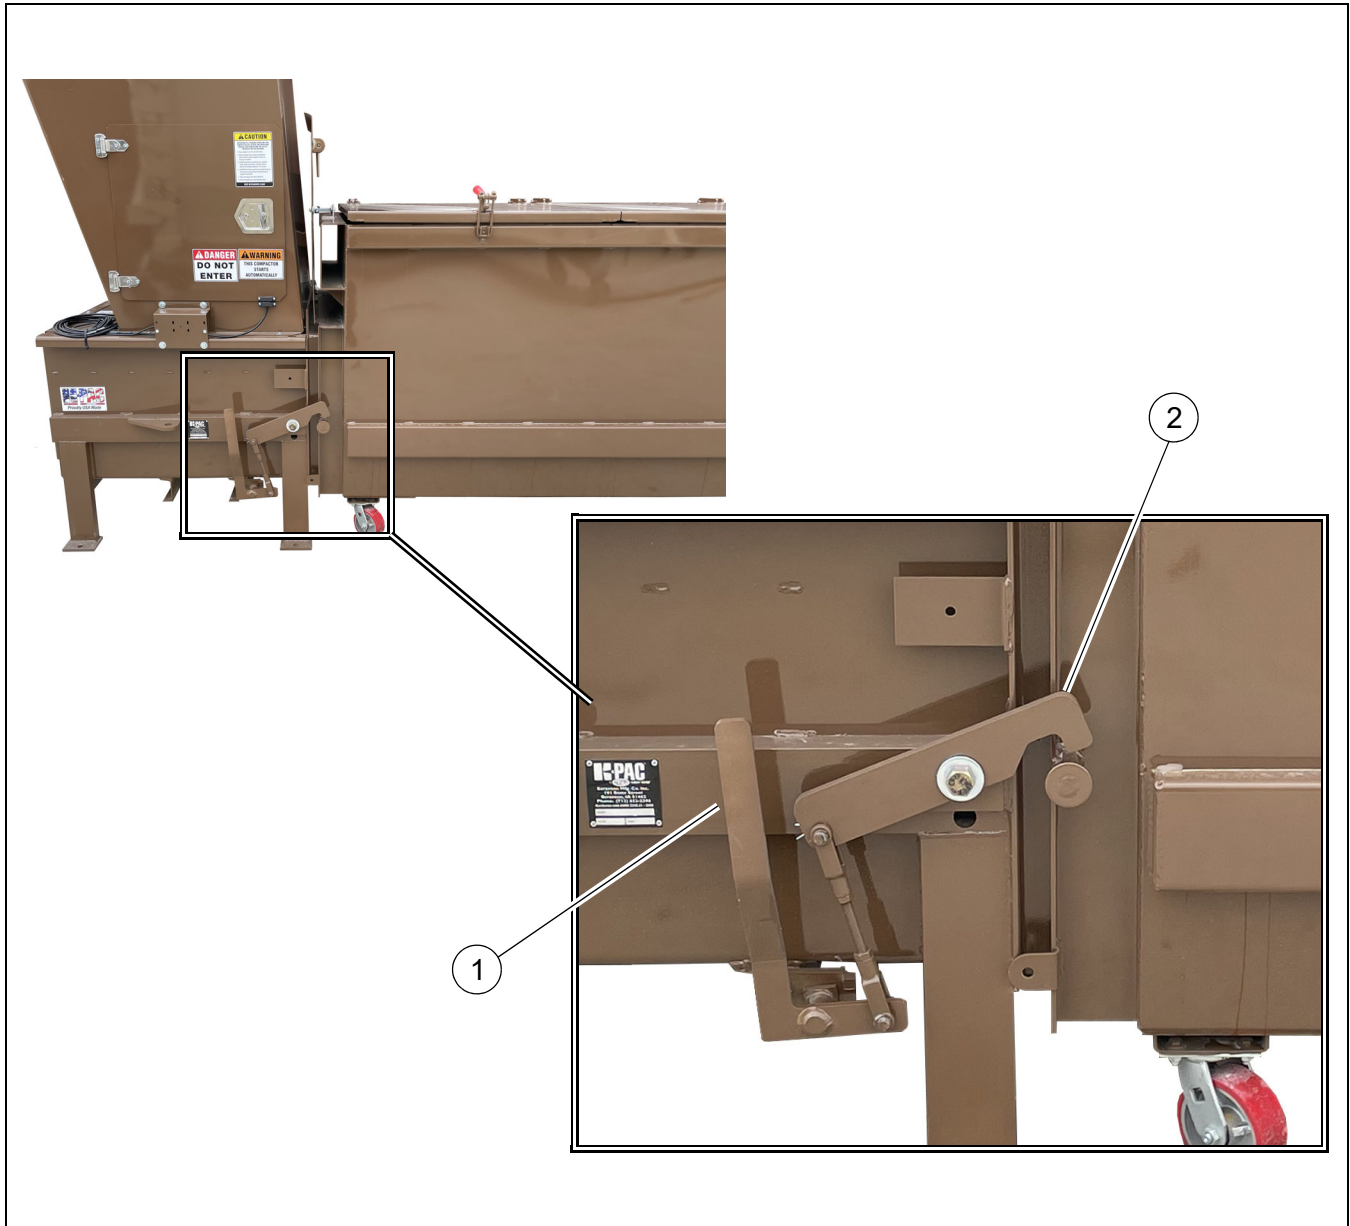

Figure 19
- Unlatch the container from the compactor by rotating the handle (**Figure 19, 1**) up and towards the container until the latches (**Figure 19, 2**) on both sides are released and clear.